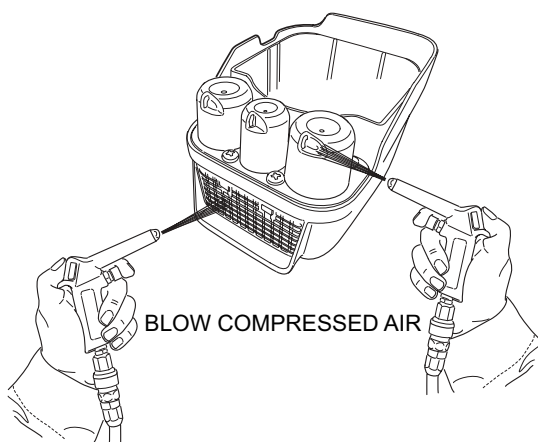

Figure 27. Engine Air Filter Cover
4. Blow compressed air through the air cleaner cover as shown in Figure 27. Clean inside of air filter cover with warm, soapy water or nonflammable solvent. Rinse and dry thoroughly.